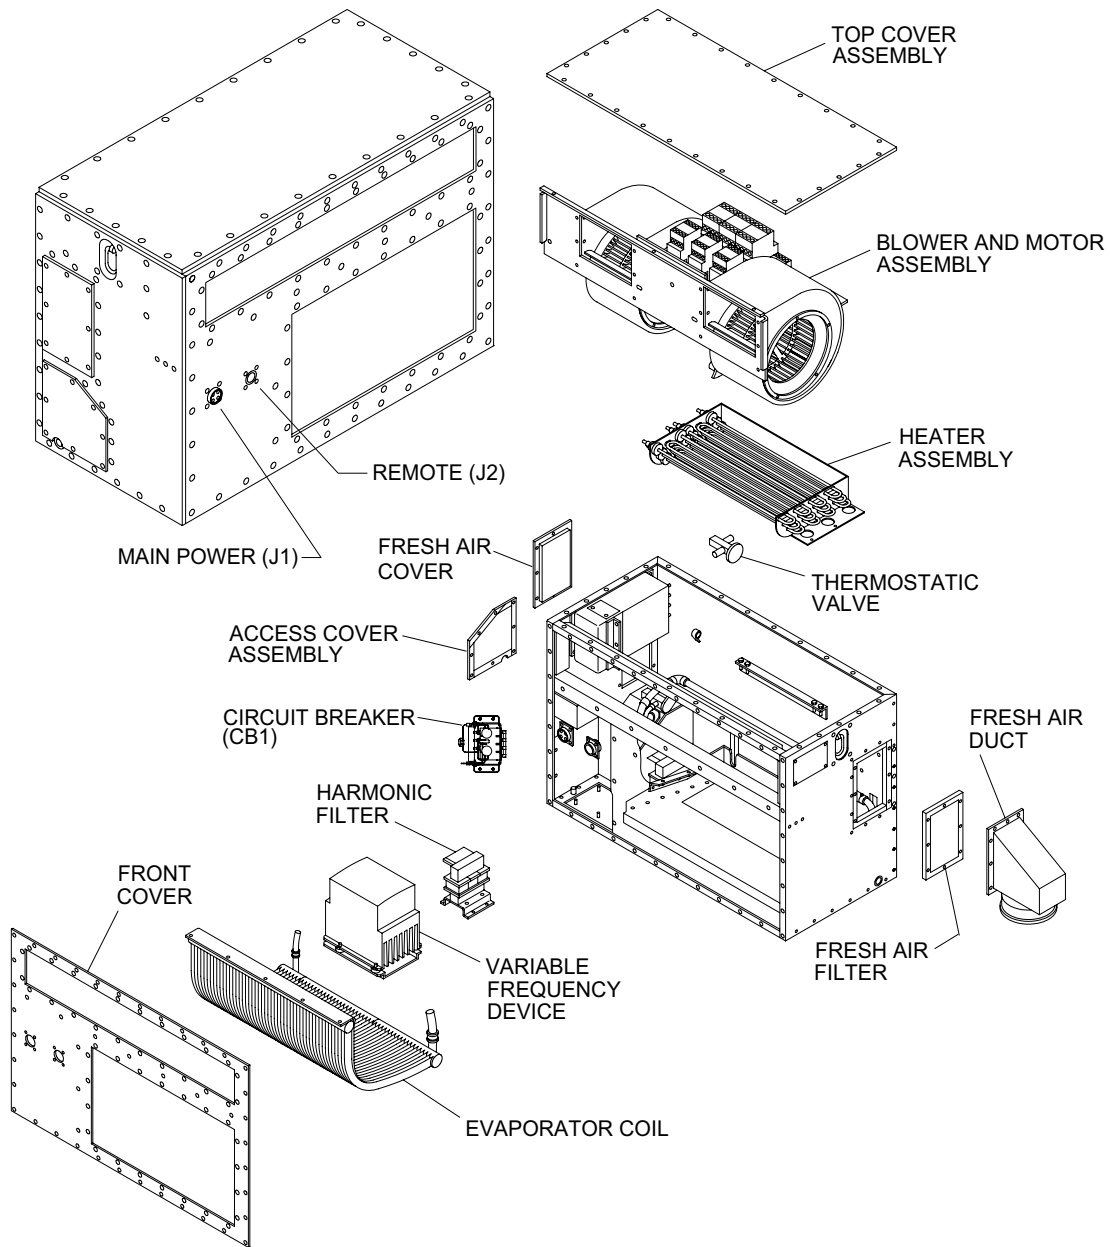

Figure 1. LOCATION OF MAJOR COMPONENTS (Evaporator Section).
1. EVAPORATOR ASSEMBLY (Figure 1).